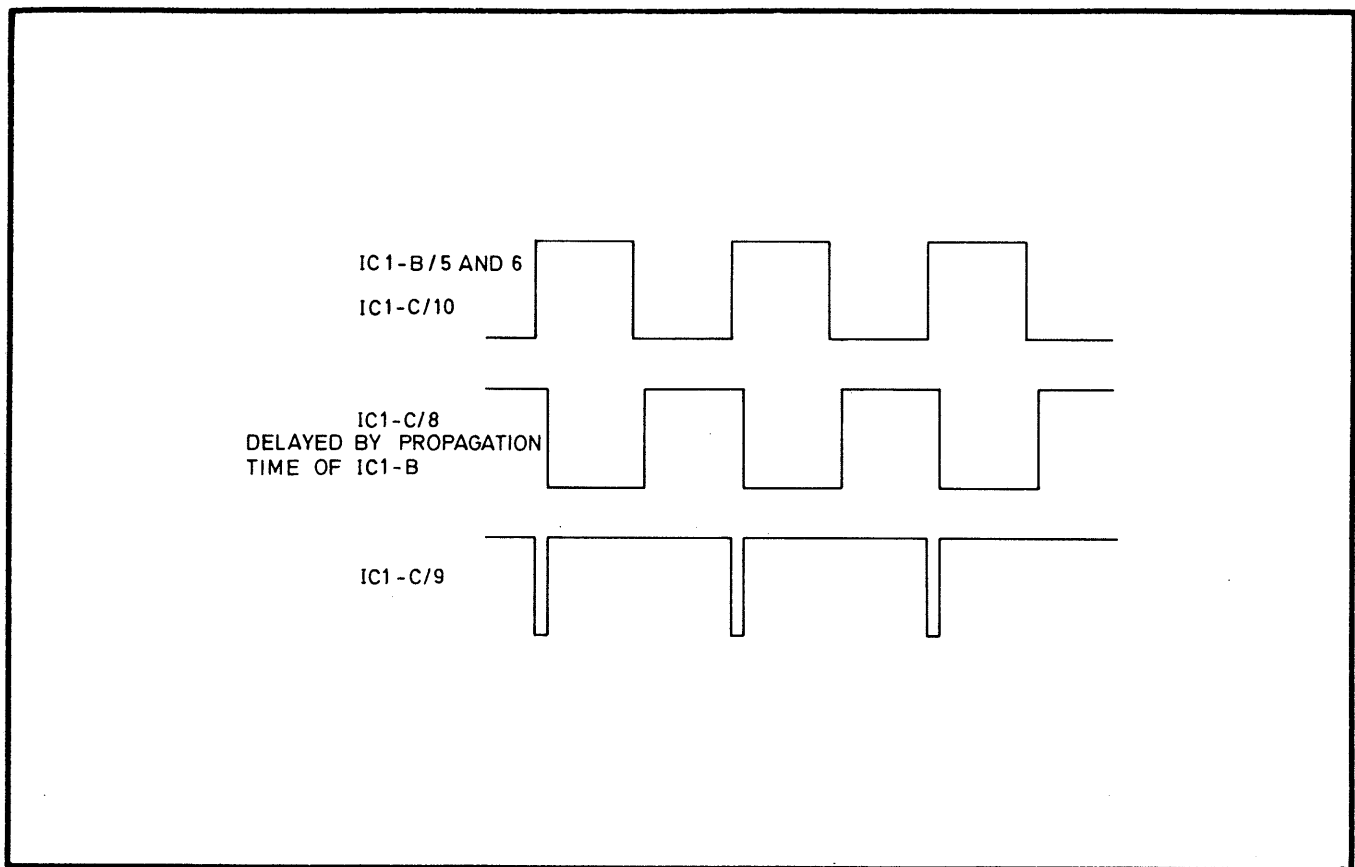

Fig. 5.2 Pulse Generator Waveforms
5.3.5.1 The pulse waveform from IC1-D/12, which has the same frequency as the frequency standard in use, is applied to the pulse generating circuit formed by IC1-B and IC1-C. The operation of this circuit is illustrated in Fig. 5.2.